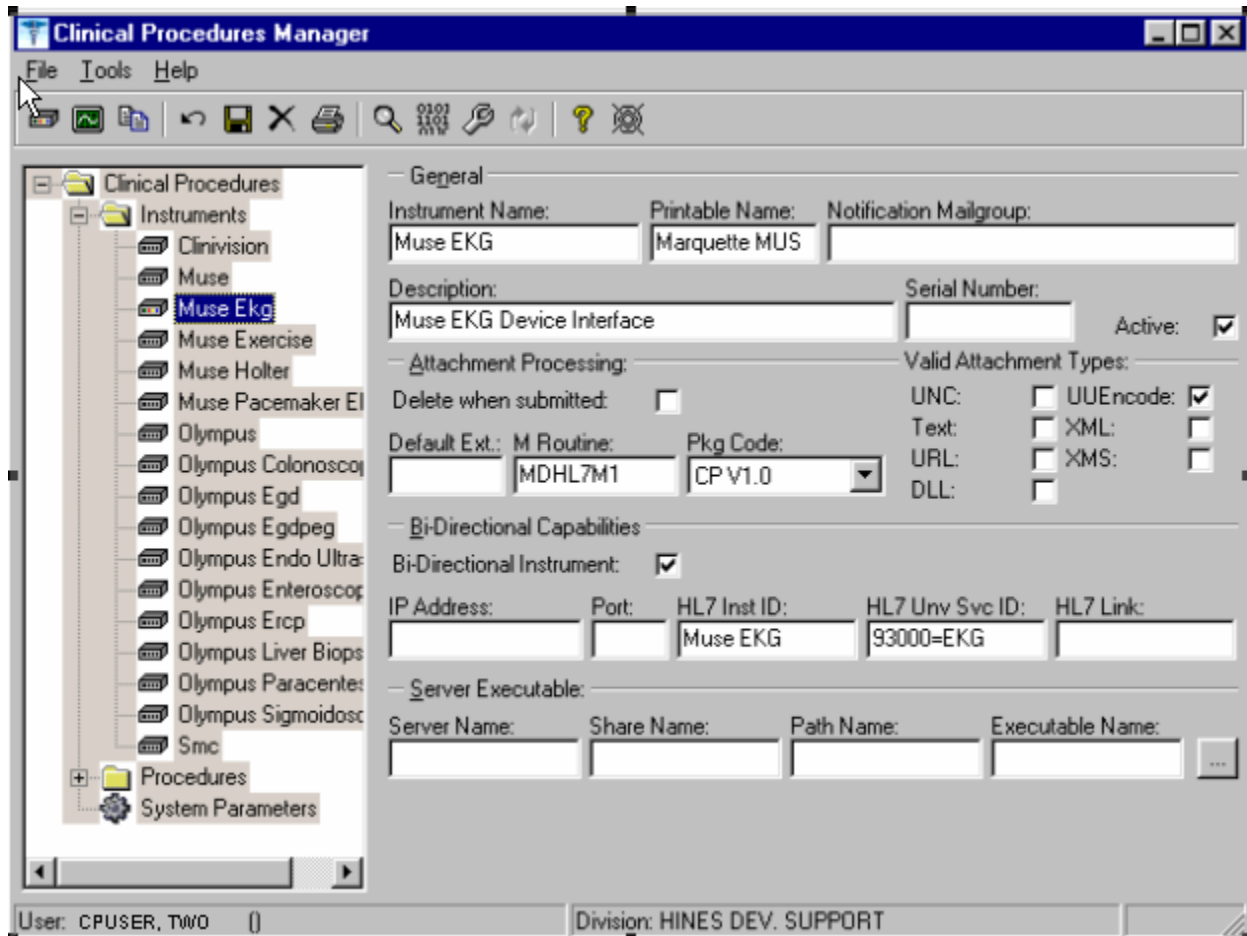

Figure 6-2
1. View the list of automated instruments. See Figure 6-2.